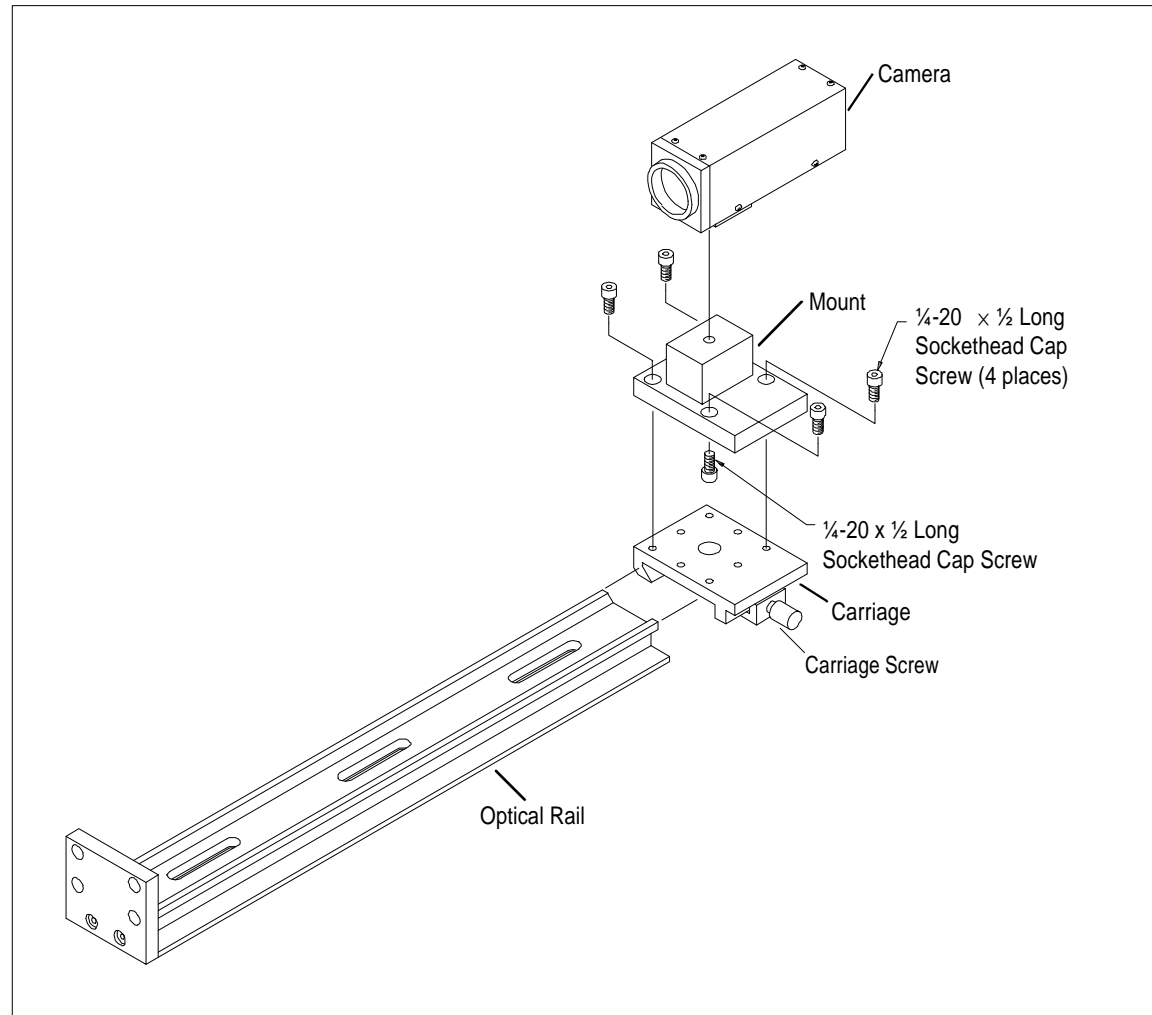

Figure 1
1. Attach the camera mount to the camera using one $\frac{1}{4}$ -20 sockethead cap screw, as shown in Figure 1.
2. Attach the camera with mount to the carriage using four $\frac{1}{4}$ -20 sockethead cap screws, as shown in Figure 1.